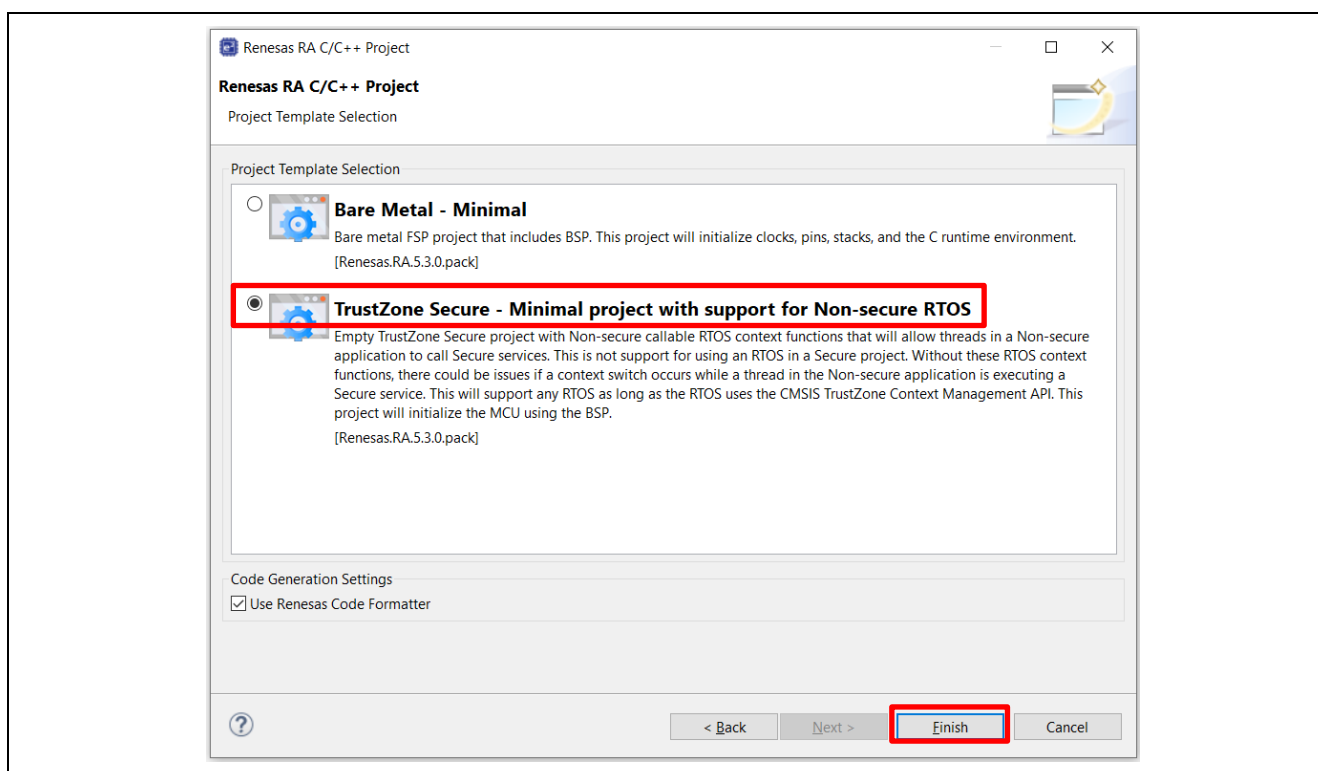

Figure 45. Choose the Project Template
For a Bootloader Project using TrustZone, choose the project template. As shown in Figure 45, there are two Secure project templates. You can choose which templates to use based on whether an RTOS is used in the Non-secure project.
- Secure projects will add the required RTOS context in the Secure region for the Thread that needs to access the NSC APIs in an RTOS-enabled project. When this project type is selected, the Arm TrustZone Context RA Port will be added, as shown in Figure 45.